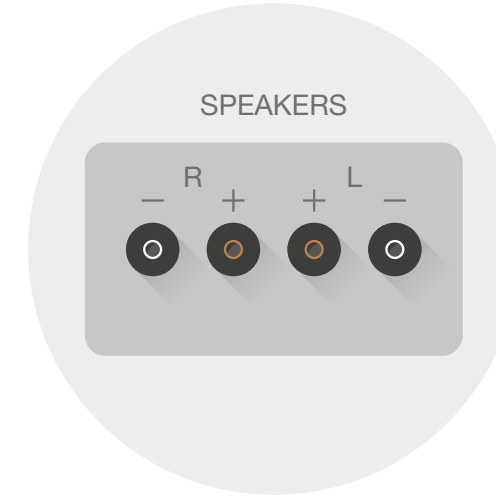

Fig. 2 Amplifier loudspeaker outputs (example).
2. Connect the other cable ends to the loudspeaker outputs of your switched off power amp (see Fig. 2).